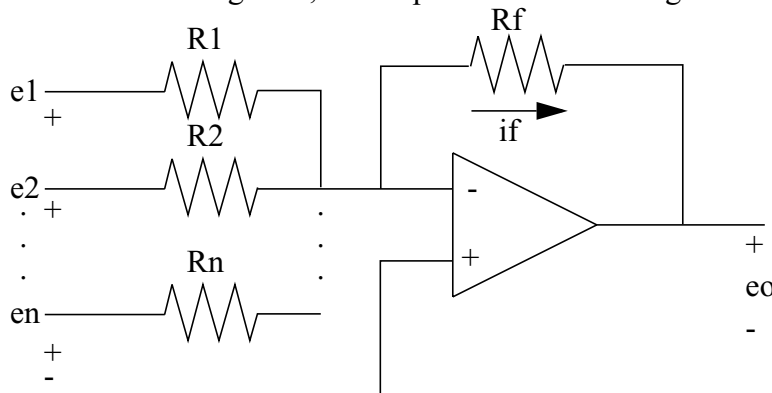

Figure 3. Summing Amplifier
**THE SUMMER:** In the case where there are “n” number of inputs to the negative terminal of the op-amp such as shown in Figure 3, the output would be the negative sum of all of them.